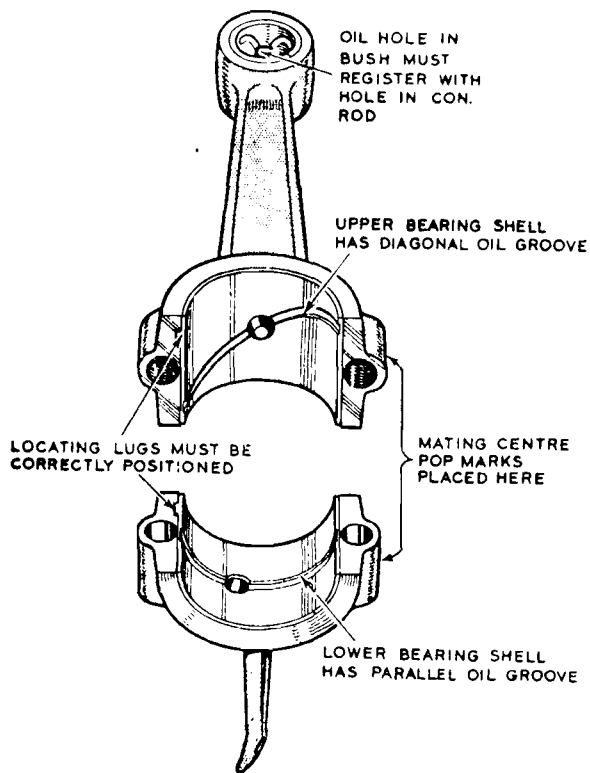

FIG. 2 UPPER AND LOWER BIG END BEARING SHELLS ARE NOT INTERCHANGEABLE AND SHOULD BE FITTED AS SHOWN ABOVE.
5. Remove the 3" internal circlip from its groove behind the front main bearing. (See Part II, Fig. 2).
When this has been done dismantle the rods again and fit bearing shells, connecting rods and caps to crankshaft journals, taking care that a good marking is obtained before final assembly. Points to be noted when assembling shells are indicated in **Fig 2**. The connecting rod bolts should be examined for damaged threads or stretched threads. If you have any doubt of the servicability of a connecting rod bolt scrap it and fit a new bolt.